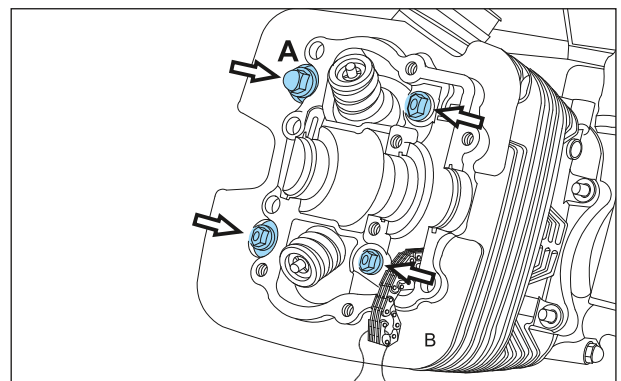

Fig. 3.58
- Loosen and remove 1no. Domed nut with flange M8 cylinder head (A) from top LH side of the cylinder head.
- Take out the copper washer (Gasket cylinder head nut ) of 8.5X17X2.3 (Fig. 3.58)